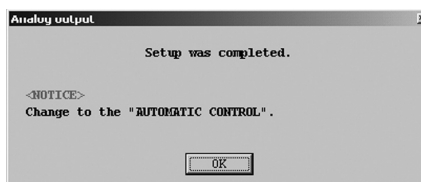

Fig.29
- ⑤ When the previous settings are replaced with the new settings just entered in response to clicking on "OK", a message box as shown in Fig. 29 appears. Clicking on "OK" button at this point completes the setup.